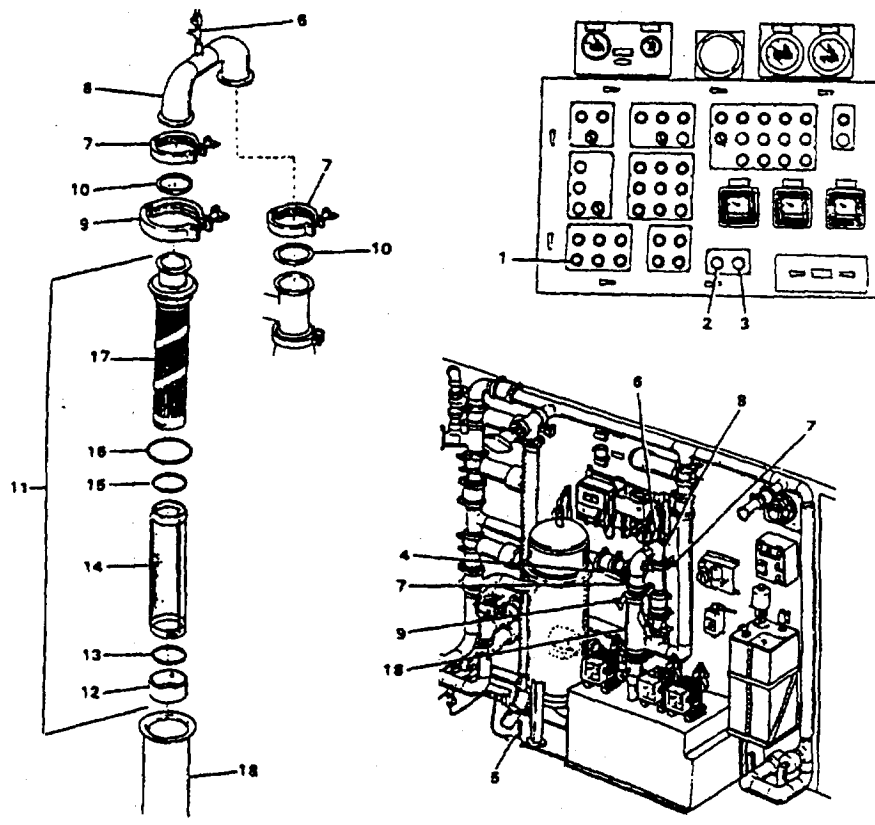

Figure 2-56. Replacing Outer Basket Strainer Screen
- (3) Clean basket strainer.
When basket strainer is blocked or needs cleaning, the basket strainer pressure drop sensor will turn on warning horn and yellow STRAINER PLUGGED light (1), Figure 2-56.
- (a) Push ALARM SILENCE (2).
- (b) Shutdown ROWPU to standby (para. 2-18) and push SYSTEM RESET (3).